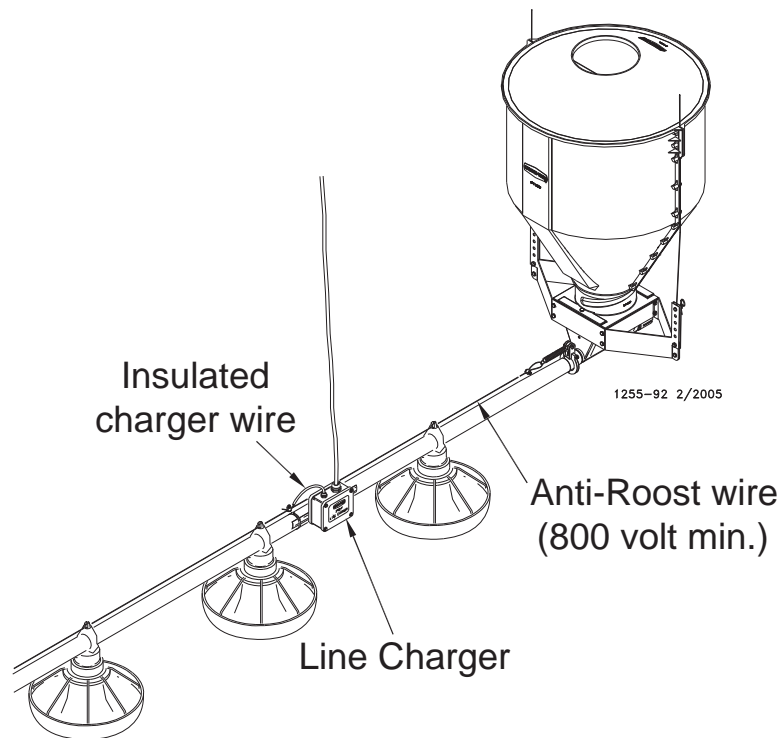

Figure 44. Line Charger Installation
11. Install the Poultry Trainer or Line Charger, as shown in **Figure 44**. The Poultry Trainer is used to power all Anti-Roost lines in a house. The Line Charger is used to power individual Anti-Roost lines in a house. See **Figure 44**. Route the charger wire from the Poultry Trainer or Line Charger to the Anti-Roost system. Secure the Charger Wire to the Anti-Roost cable, using a cable clamp.